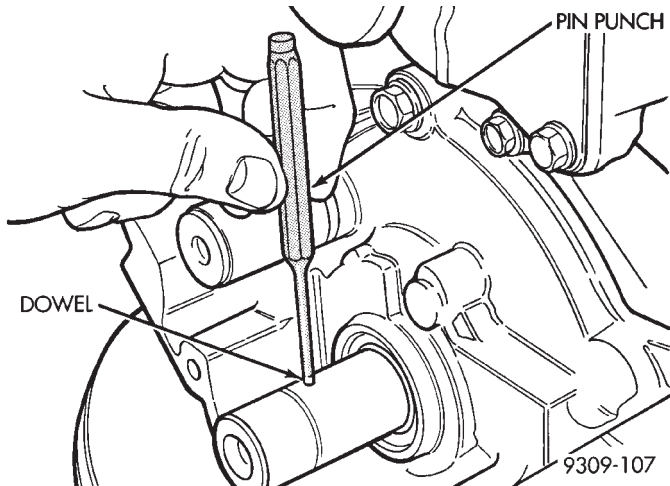

Fig. 77 Crankshaft Sprocket Dowel Pin—Removal/Installation
- (3) Tap the dowel pin out of the crankshaft (Fig. 77).
- (2) Install the dowel pin into the crankshaft to 1.2 mm (0.047 inch.) protrusion (Fig. 77).